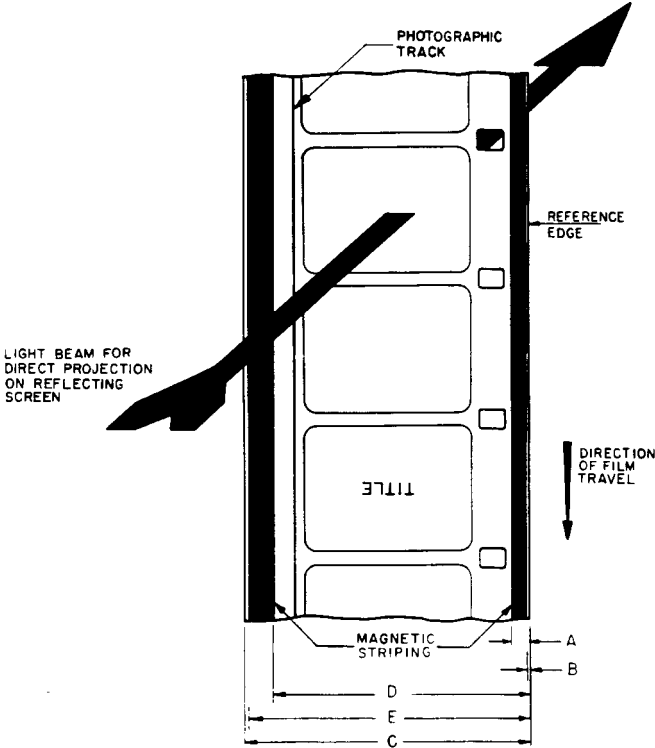

Figure 1 – Location and dimensions of magnetic striping
2.1 The location and dimensions of the magnetic striping shall be as given in figure 1 and table 1.